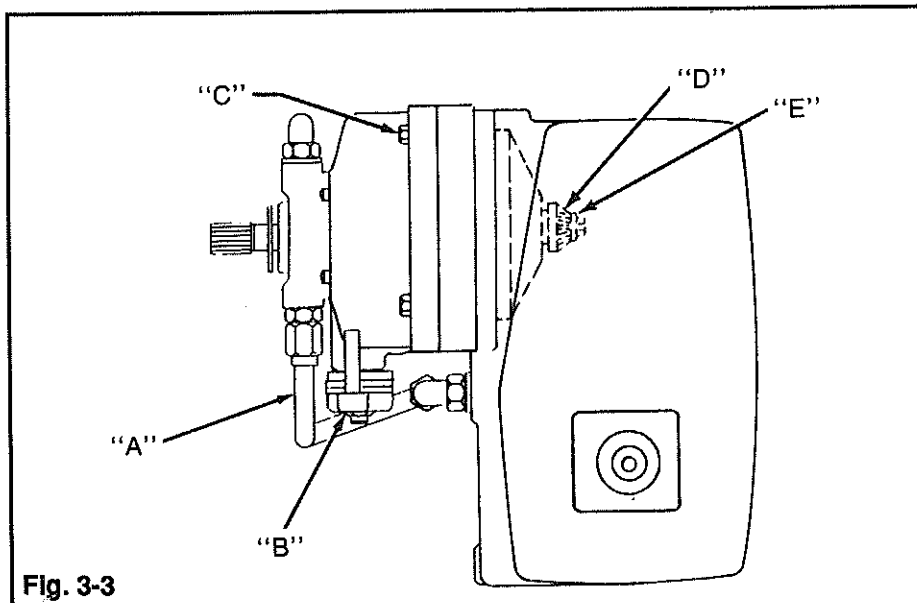

Fig. 3-3
11. Disconnect and remove suction line (A, Fig. 3-3) from bottom of hydro and rear axle, disconnect and remove return line from right side of hydro and filter base. Disconnect pressure line from TOP of hydro (it is not necessary to disconnect the other end of the line).
12. Remove nut and washer on control shaft and slide control arm assembly (B, Fig. 3-3) off of shaft. **NOTE:** A puller may be necessary when removing control arm.
7. Install fuel tank (on 2-speed Models, route shift shaft through left hand tank support). Secure tank with hardware removed earlier (Fig. 3-3).